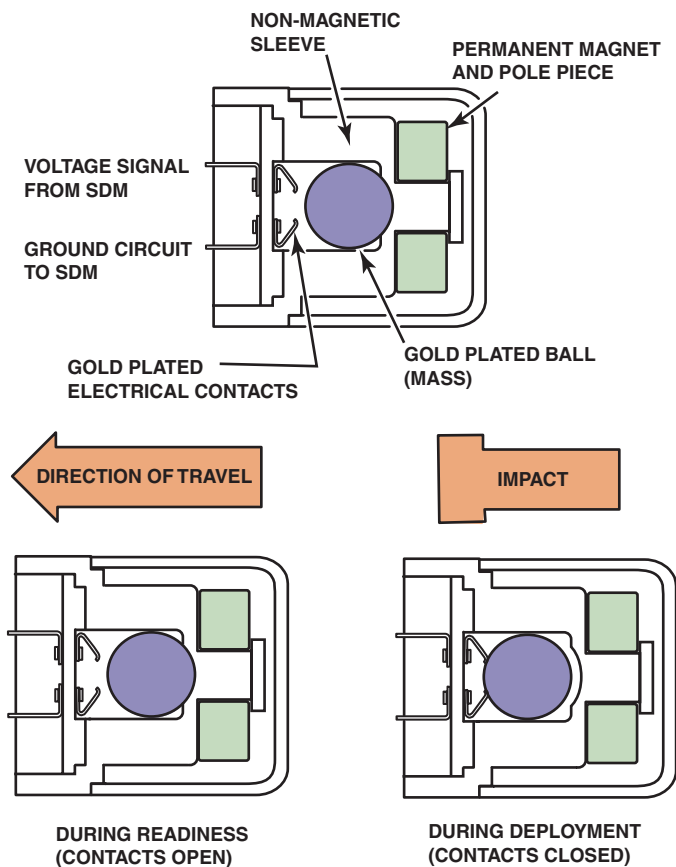

FIGURE 25-9 An airbag magnetic sensor.
1. **Magnetically retained gold-plated ball sensor.** This sensor uses a permanent magnet to hold a gold-plated steel ball away from two gold-plated electrical contacts. ● **SEE FIGURE 25-9.**